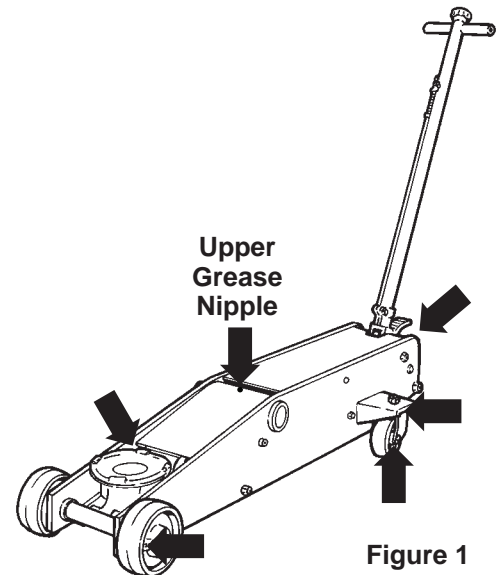

Figure 1
Refer to Figure 1.
1. **A minimum of once a month**, lubricate the moving parts of the jack (indicated by arrows in Figure 1).